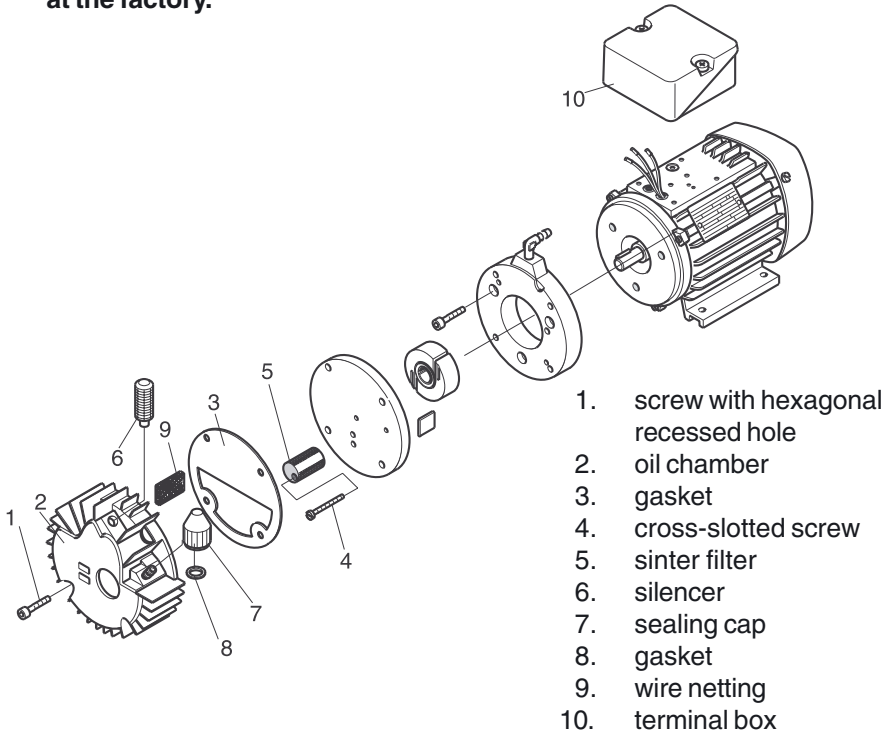

fig. 10.2 Disassembled vacuum pump
Place vacuum pump on working surface and disassemble it following the position numbers (pos. 1 to 10) as shown in fig. 10.2.
Reassembling of the vacuum pump is made in the opposite order. After assembly the exterior surface of the gasket (3, fig. 10.2) has to be sealed with clear lacquer.